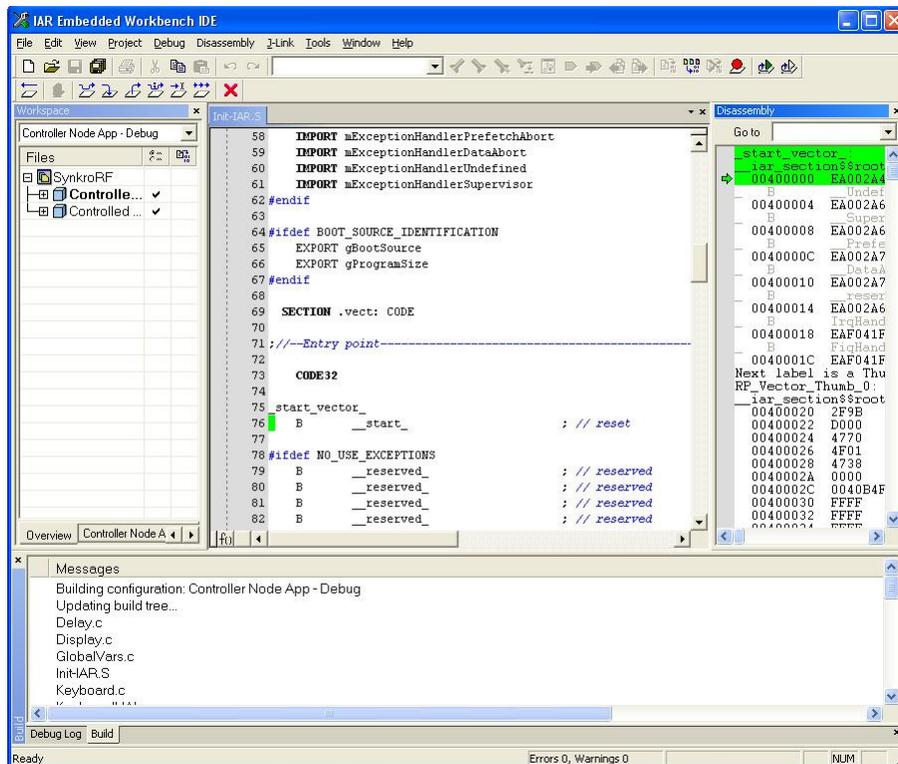

Figure 2-21. IAR EWB Debugging Window
5. Wait until the board's FLASH memory is written. When this is complete, the IAR EWB debugging window appears as shown in Figure 2-21.